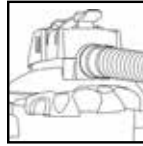

FIGURE 25
46. Your vacuum can be used as a powerful blower. To use your unit as a blower, clear hose of any obstructions. Insert machine hose end into blower port on rear of unit. **FIGURE 25.** Twist slightly to tighten the connection. Caution should be used when using as a blower due to the powerful force of air when using certain attachments.